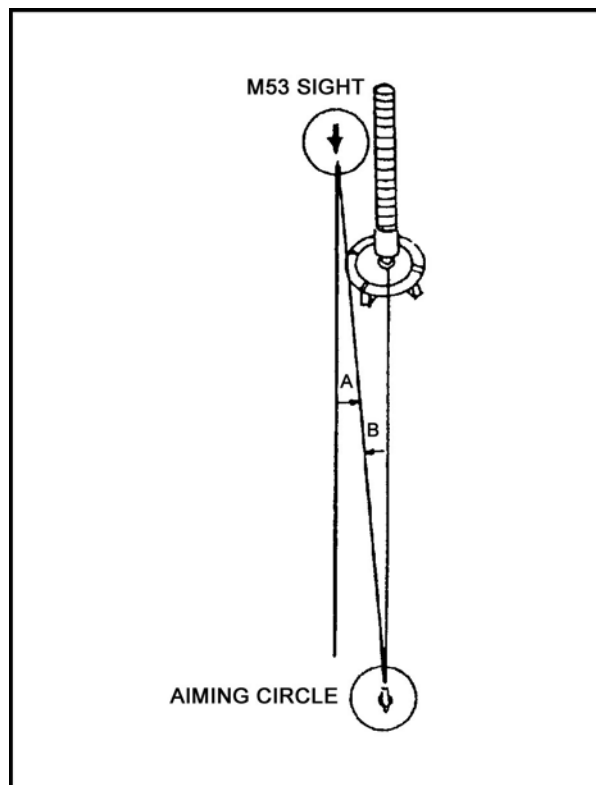

Figure 2. Determining angle A.
- d. The gunner is directed to turn the deflection knob of the sight until the vertical line is centered on the lens of the aiming circle, and angle A is read on the red scale of the sight (Figure 2).
- e. The section sergeant turns the azimuth micrometer knob of the aiming circle until the vertical crosshair in the telescope lies on the center of the sight lens. He then reads angle B (Figure 2) opposite the azimuth scale index.